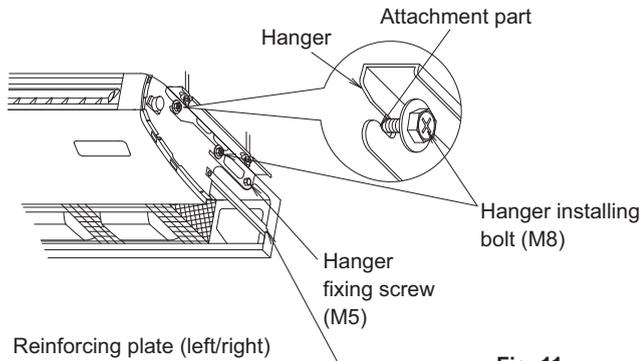

Fig. 11
(2) Lift up the indoor unit, slide from the front and put the hanger installing bolt (M8) into the securely for temporary hanging. (Refer to Fig. 11)
(3) Tighten the hanger fixing screws (M5) at 2 places, which were removed, as they were before. (Refer to Fig. 11)
(4) Tighten the hanger installing bolts (M8) at 4 places properly. (Refer to Fig. 11)